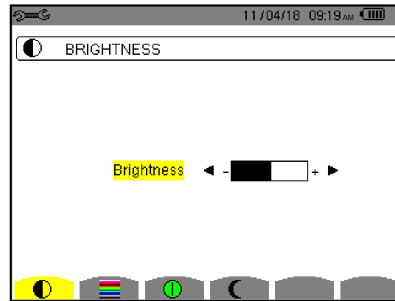

Figure 4-3
To open Display mode, select the  Display option in the Configuration screen and press $\leftarrow$. This opens the Brightness screen (Figure 4-3). The options at the bottom of the screen allow you to navigate to other display screens.
1. In the Brightness screen (Figure 4-3), press the  function button. This displays the Colors menu.